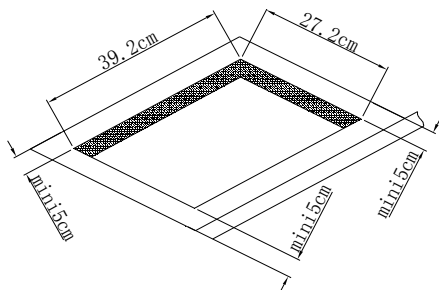

Fig. 1
1) Drill a hole in table-board and strictly follow the dimension as indicated in the fig.1.